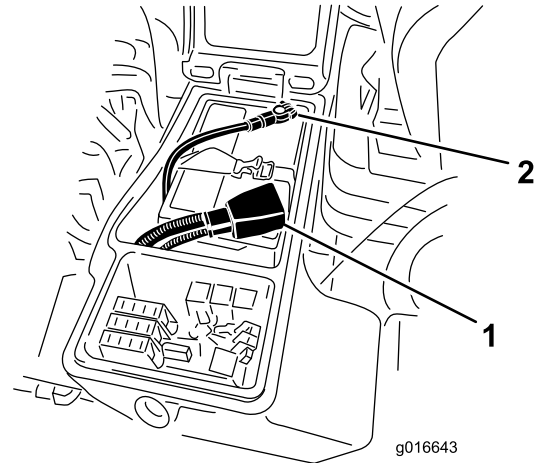

Figure 134
1. Install the positive battery cable (red) to the positive (+) battery post (Figure 134).